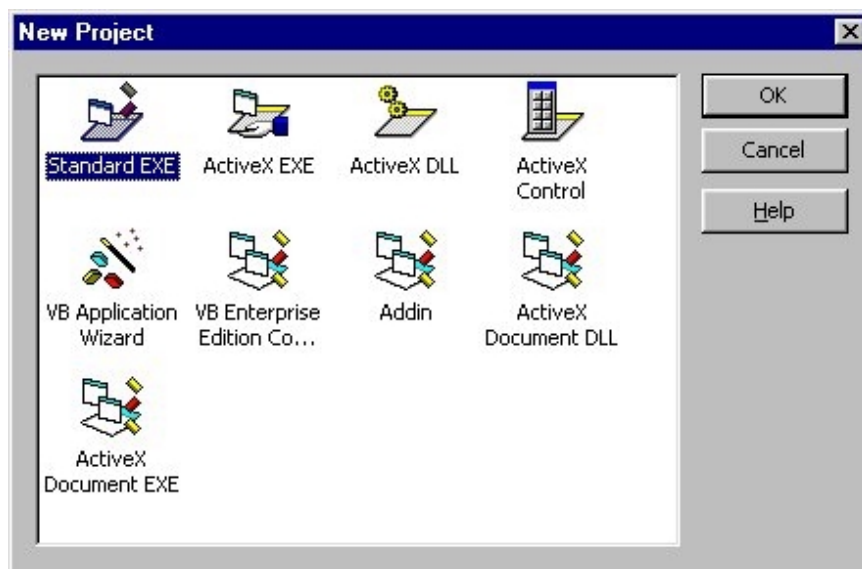

Figure 3-1-2. Select the "Standard EXE"
- Open Visual Basic 5.0, and select the "Standard EXE" option. Then click the "OK" button. Refer to Figure 3-1-2.